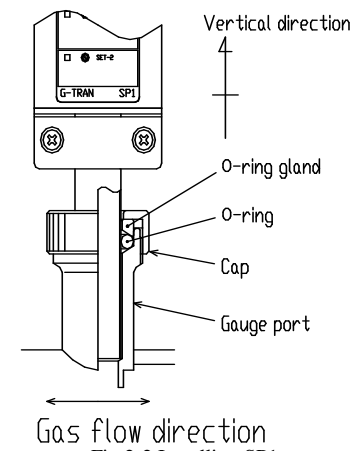

Fig. 2-2 Installing SP1
Install the sensor head in such a manner that the plane of the sensor mounting port is parallel to gas flow. Ensure that gas does not enter the sensor head in the form of beam. (See Fig. 2-2.)
- Mount the filament perpendicularly to gravity, if possible. (See Fig. 2-2.)